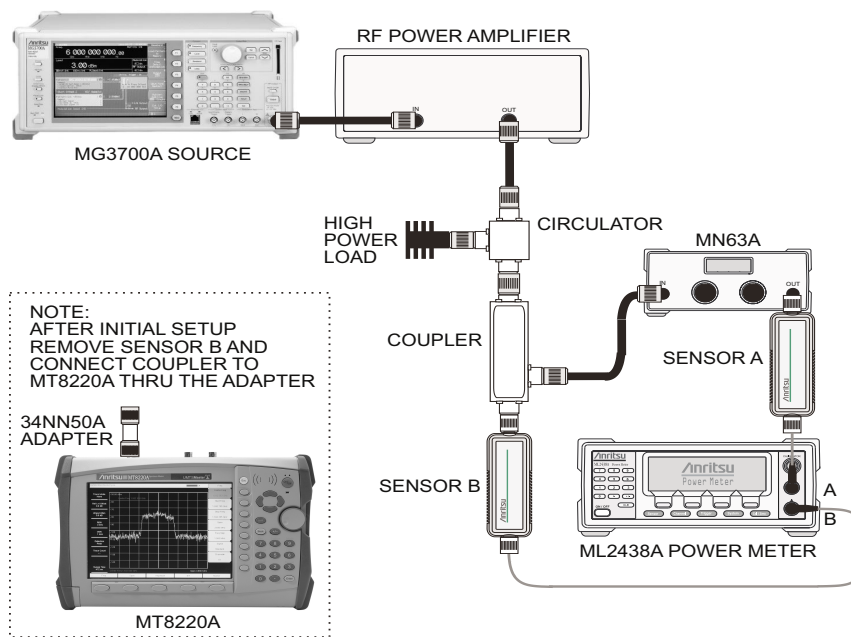

Figure 5. W-CDMA Absolute Power Accuracy Test Setup
1. Connect the MG3700A, RF power amplifier, attenuator, power meter, and MA2482D sensors as shown in Figure 5.